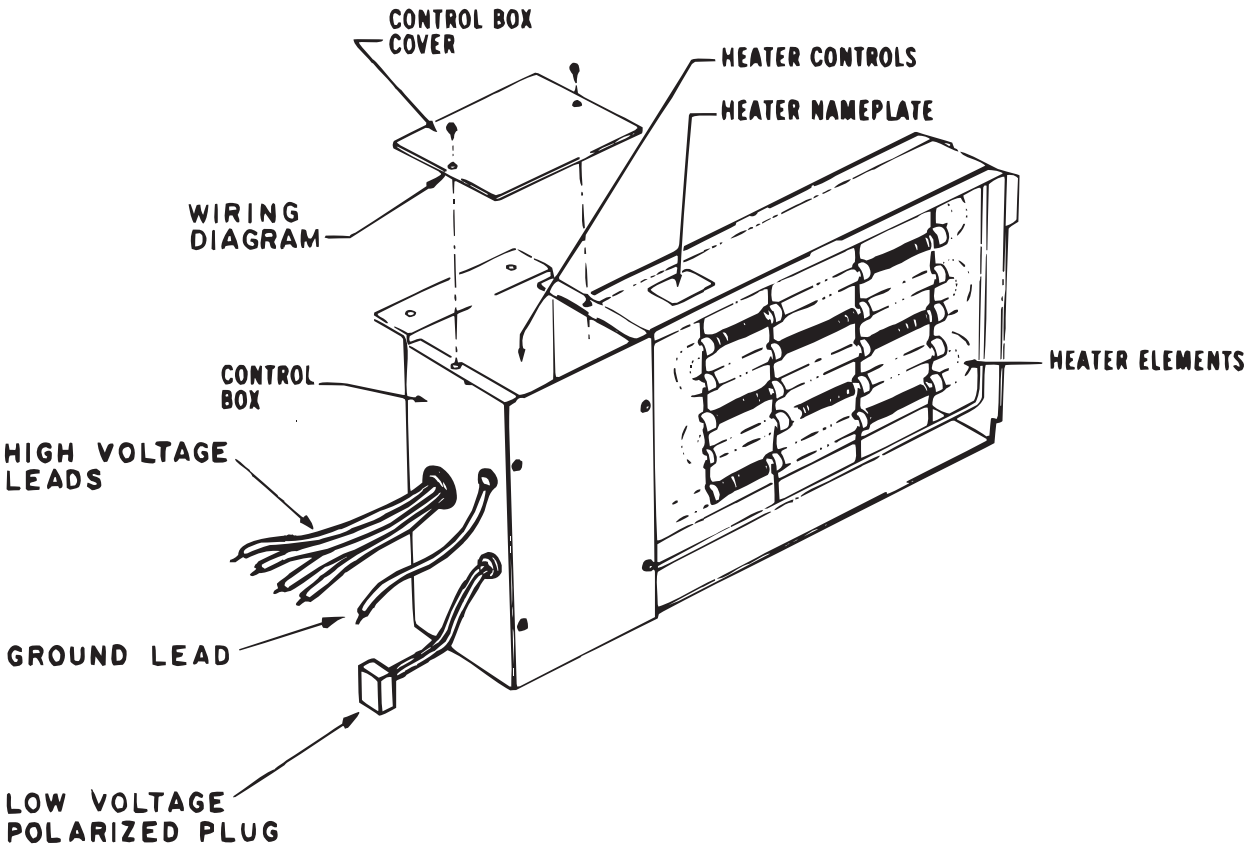

Figure 1. Typical Single Element Heater
1. Remove heater control box cover, save the two (2) cover screws for reinstalling the cover later. See Figure 1.